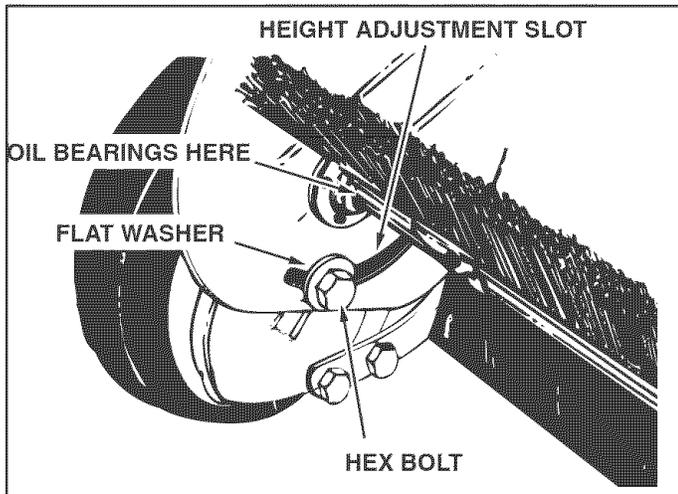

FIGURE 26
- Lubricate the brush shaft bearing twice a year with a few drops of light weight oil. See figure 26.